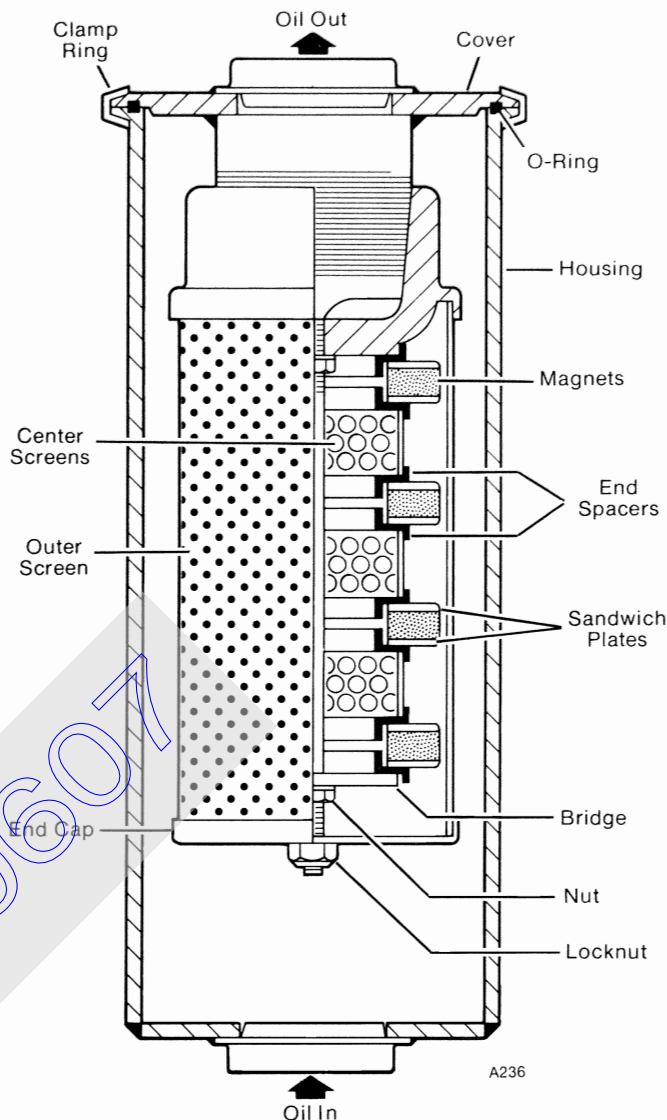

Figure 6 Magnetic Suction Screen
4. After the oil has drained, clean the suction screen (if equipped), as follows (see Figure 6):
- f) Reassemble the suction screen using Figure 6 as a guide. Use the polarity of the magnets to aid assembly. Do not distort the bridge or the end cap when tightening the nuts.